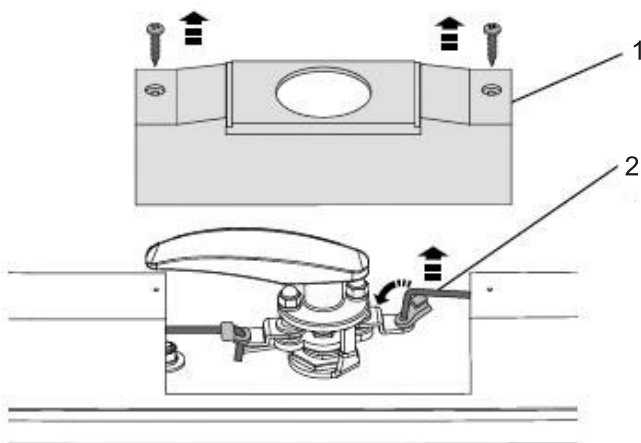

Figure 9
2. If the rear door handle does not lock, remove the interior (1) lock cover and unclip the pull rods (2). Refer to figure 9.